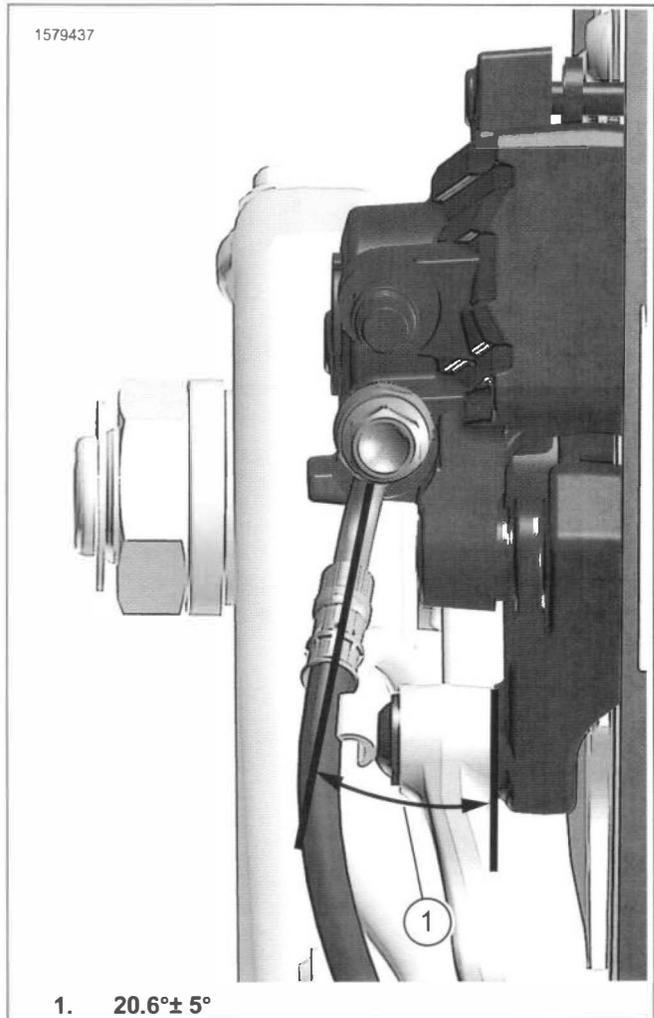

Figure 3-33. Rear Caliper Brake Line Location
See Figure 3-33. Record position of brake line before removing.
- a. Attach brake line (3) with banjo bolt (4) and **new** gasket washers (5).
- b. See Figure 3-33. Position brake line as shown.